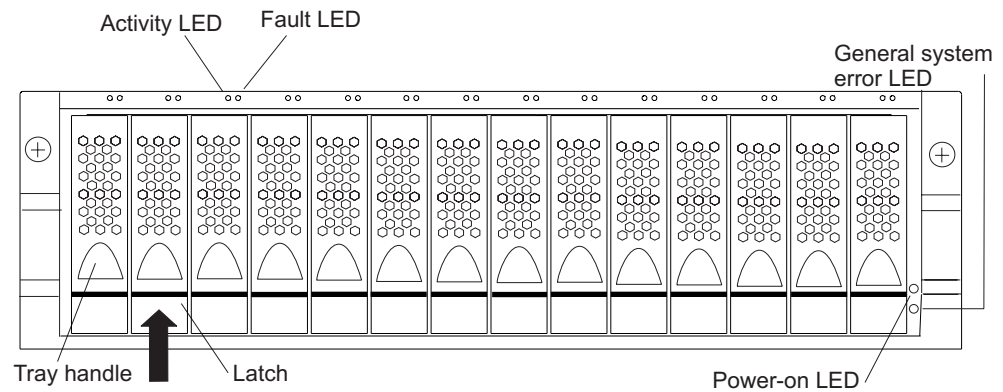

Figure 43. Hot-swap hard disk drive LEDs
2. Check for Fault LEDs shown in Figure 43. If any amber LEDs are lit, see “Solving problems” on page 101.
- a. Release the latch on the drive CRU by pinching together the blue line on the tray latch and the finger hole on the tray handle, as shown by the arrow in Figure 43.